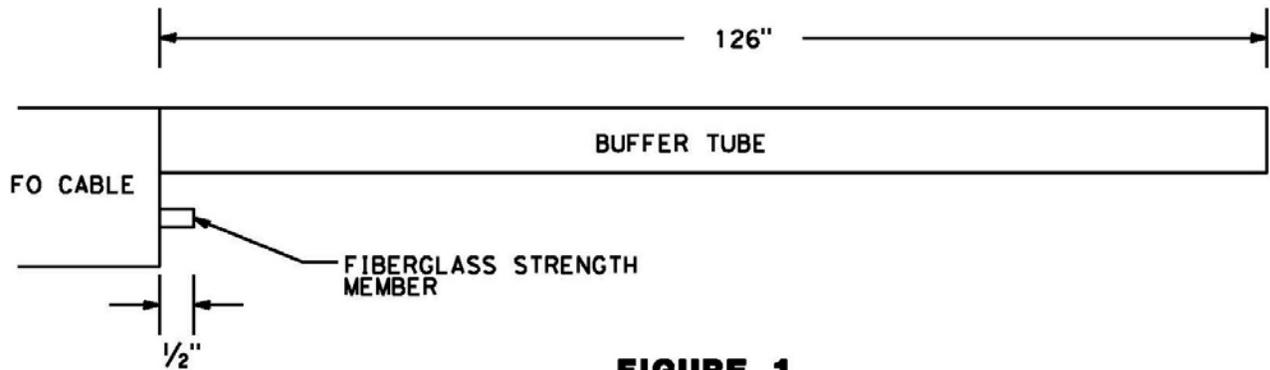

FIGURE 1
- Score FO outside jacket at 126" and pull ripcord, or remove outer jacket per FO cable manufacturer's instructions. Cut flush and remove filler rods and Super Absorbent Material. Leave ½" of fiber glass strength member, and 126" of buffer tube, see figure 1.